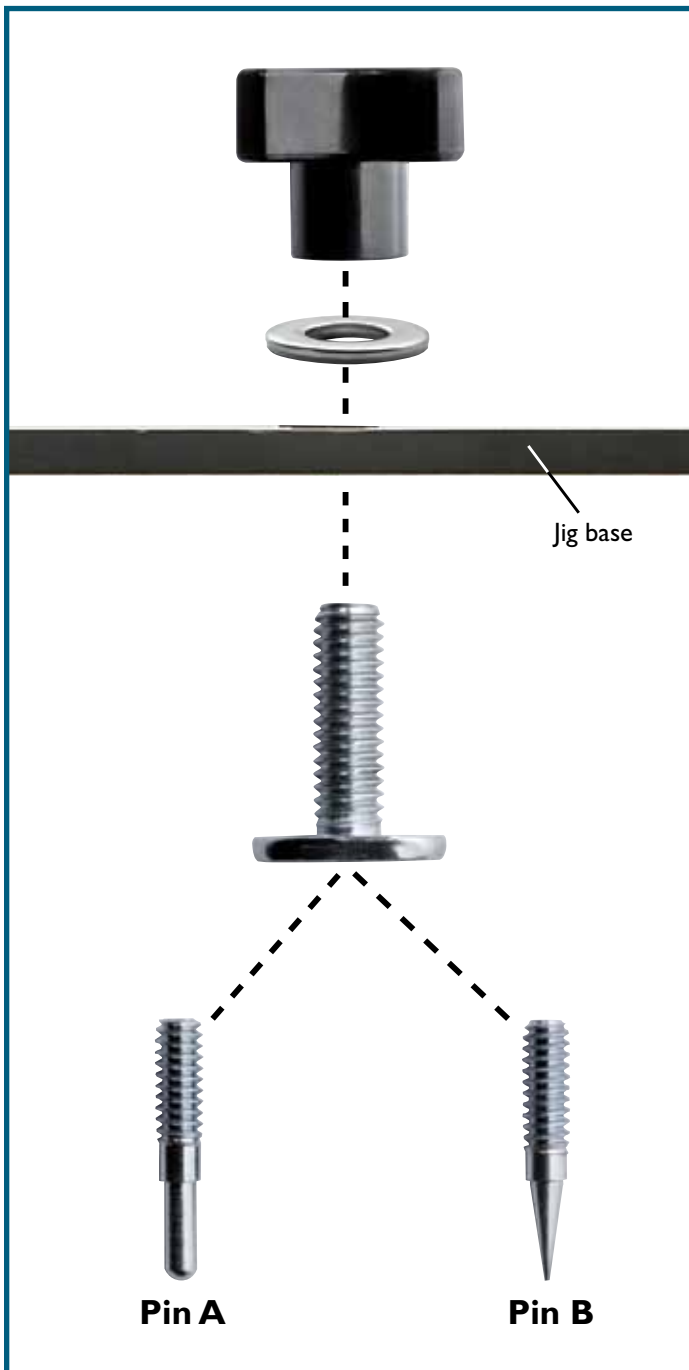

Fig. 1
4. Assemble pivot point and knob. **Fig. 1.** Use pin A when cutting from bottom surface or a predrilled 1/8" hole and Pin B when cutting from top surface.